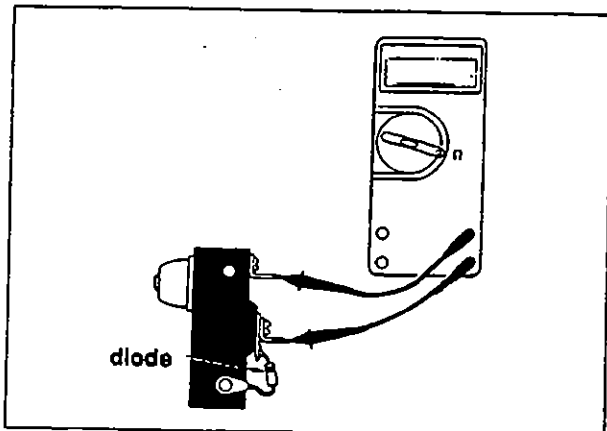

Fig. 1.1.33
**Correction:** Check that connections are made and are tight. Check for corrosion on terminals and clean as required. Check function of fuel pump switch. With the switch open, the VOM should register an "O.L." condition (Fig. 1.1.33). With the switch closed (plunger released), the VOM should register continuity. Replace as needed.